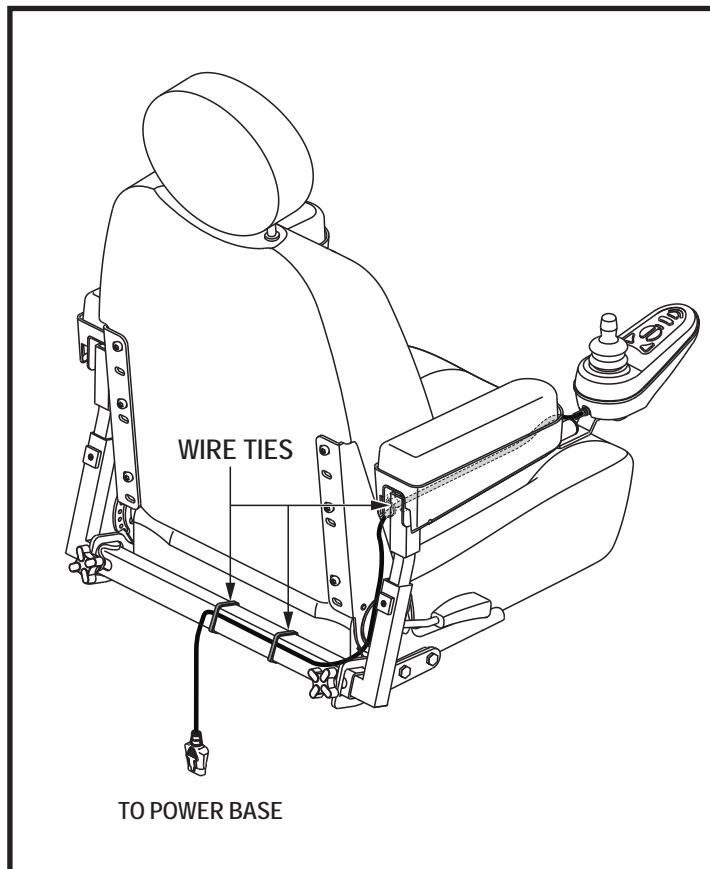

Figure 9. Controller Routed on a Contour Seat
8. Secure the controller harness to the armrest receiver with wire ties (contour seats only). **See figure 9.**